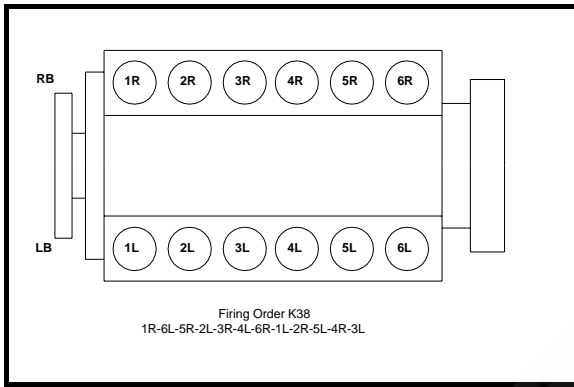

Fig. 2-25 Cylinder numbering arrangement K38
**Note:** Be sure to match "A" valve set marks to the "A" scribe mark and "C" valve set marks to the "C" scribe mark. Refer to Figs. 2-25 and 2-26 for specific cylinder arrangement and firing order.